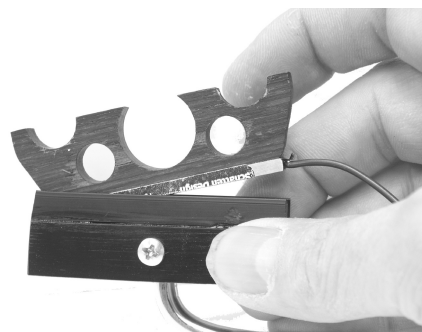

Fig 4
- 3) Slide the pickup into place on the tool, as shown until the pickup rests against the locating pin. (fig 4)